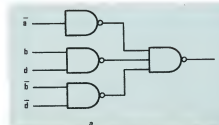

FIG. 8—LOGIC CIRCUIT is derived from reduced Karnaugh map and is shown in a. Inverter can be eliminated as shown in b.
- 8) Feed each term into a NAND gate, and feed the outputs of the NAND gates to another NAND gate. The circuit is complete. See Fig. 8-a.
Note that Fig. 8-a has \bar{a} as an input that simply gets inverted before going to the output gate. Instead of this, it would be simpler to feed a directly to the output gate, as in Fig. 8-b. Also note that the